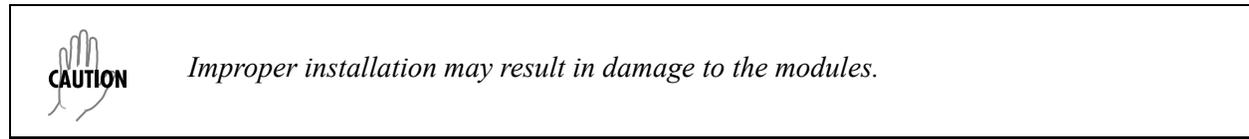

**Figure 11. Rack Mounting the NetVanta 950 IAD**
1.	Attach the rackmount ears to the NetVanta 950 chassis (see Figure 11).